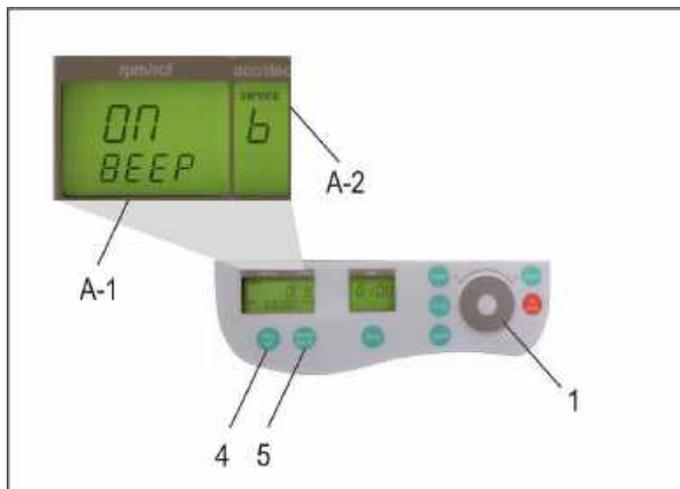

Figure 3
Proceed as illustrated, under point 1.8.2, to enter this program mode, press the key, "accel/decel" (5). In the display, "accel/decel" (A-2) flashes the word, "service". Select the letter "b" with the control field (1). As a result, appearing in the display, "rpm/rcf" (A-1), the word "ON/BEEP". After pressing the key, "rpm/rcf" (4), turn the keyboard sound (On) or (Off), with the rotatory field (1), (see Figure 3).
After not using the centrifuge for 5 minutes, the display automatically switches off. By pressing any bottom, it switches on again. Proceed as illustrated, under point 1.8.2, to enter this program mode, press the key, "accel/decel" (5). In the display, "accel/decel" (A-2) flashes the word, "service". Select the letter "I" with the control field (1). As a result, appearing in the display, "rpm/rcf" (A-1), the word "SLEEP". After pressing the key, "rpm/rcf" (4), turn the sleep mode function (On) or (Off), with the rotary field (1), (see Figure 3).